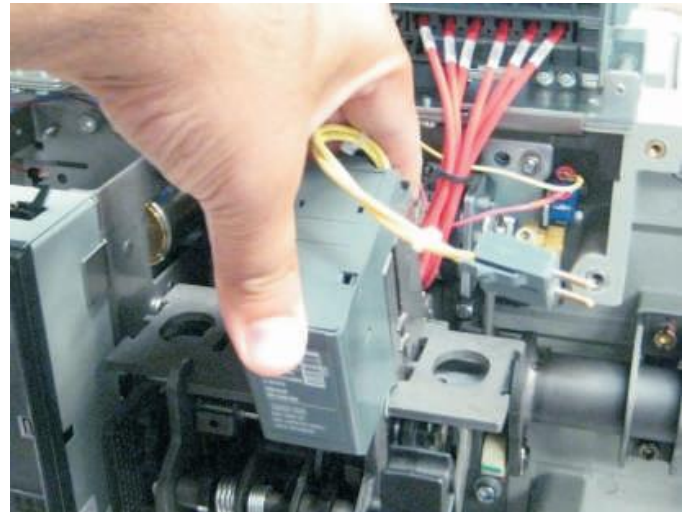

Figure 4. Coil Assembly
6. Tilt the device backwards until the rear hooks engage in the slots on the mechanism top support plate as shown in the Fig. 4.